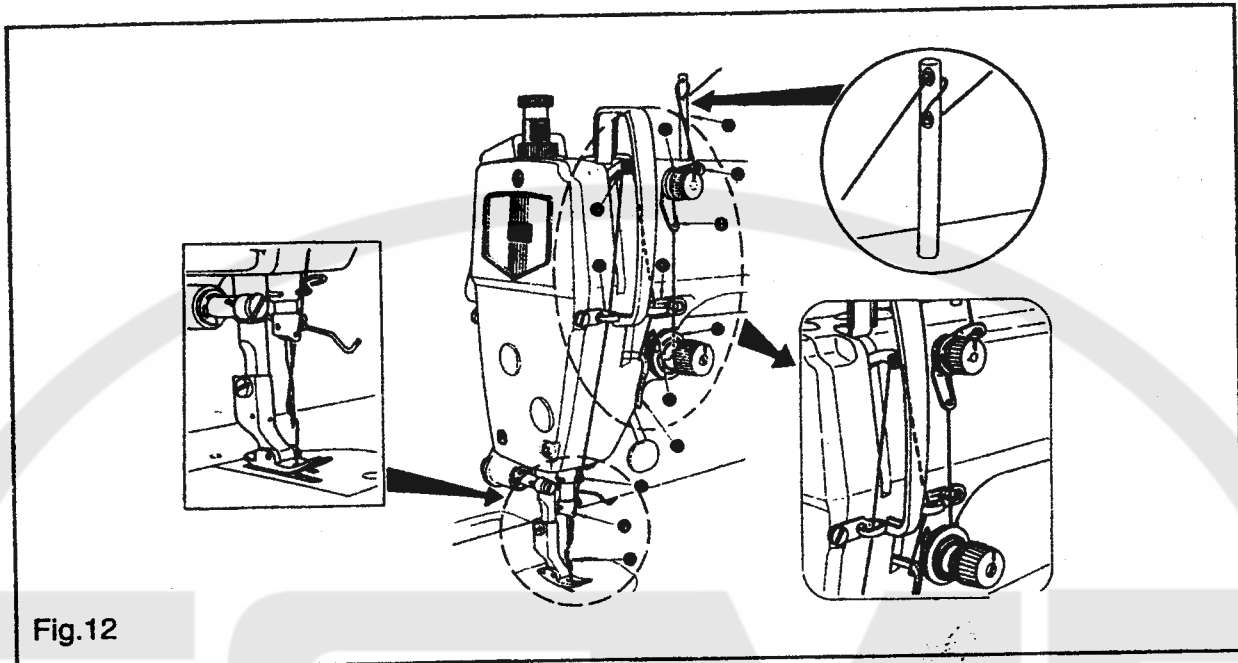

Fig.12
9.THREADING THE MACHINE HEAD(Fig.12)